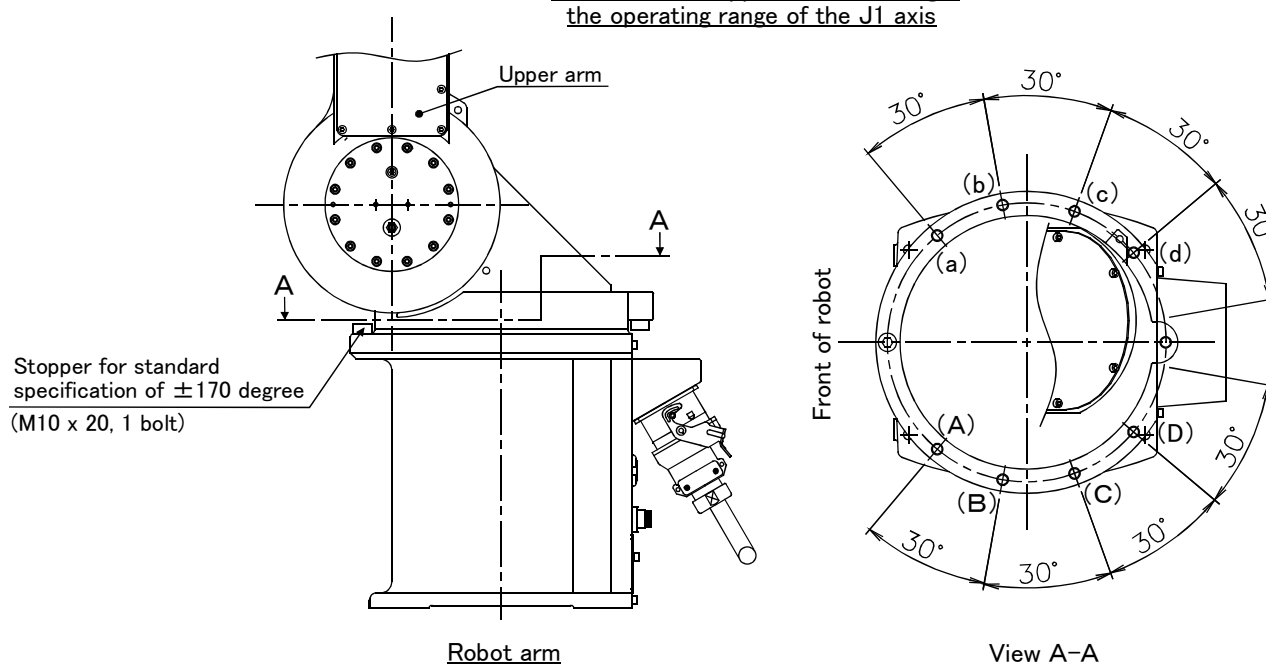

Fig.3-6 : Installation of operating range change option
Note) The insertion position given in the table indicates the insertion position for the operating range change stopper. (Refer to Fig. 3-6.)
- 1) Move the upper arm to the posture as shown in Fig. 3-6 by jog operation.
- 3) By referring to Table 3-2 and Fig. 3-6, insert the two stoppers (M10 x 20) used to change the movement range of J1 axis at the angular position to be changed, and fix securely by applying a clamping torque of 70 N · m to 86 N · m.
CAUTION Do not remove the stopper for the standard specification of ± 170 degree shown in Fig. 3-6.